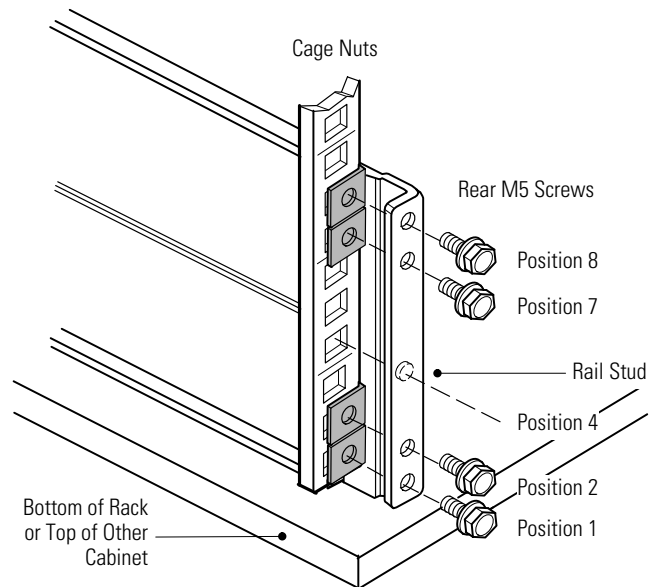

Figure 46. Securing the Rear Rail (Right Rail Assembly Shown)
5. Secure the rail to the rear of the rack with four M5 machine screws and clip or cage nuts (see Figure 46).